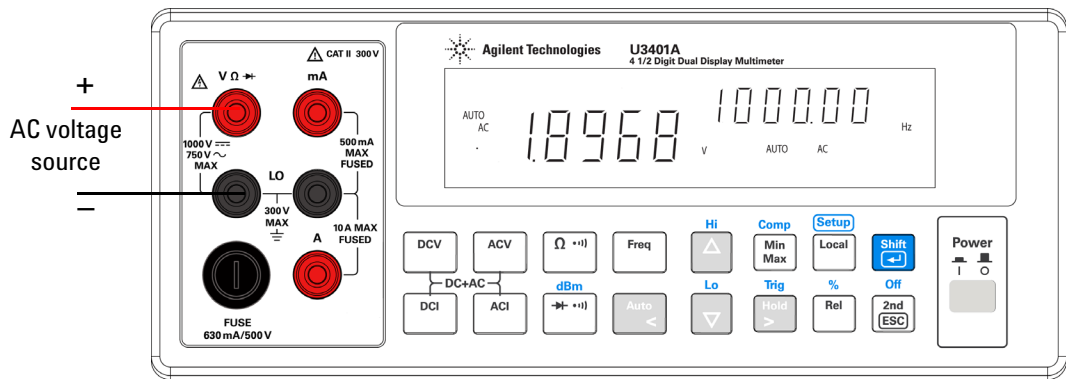

Figure 3-3 Connection terminal when measuring AC Voltage and Frequency
- 1 Connect the red and black test leads to the input terminal and probe the test points as shown in **Figure 3-3**.